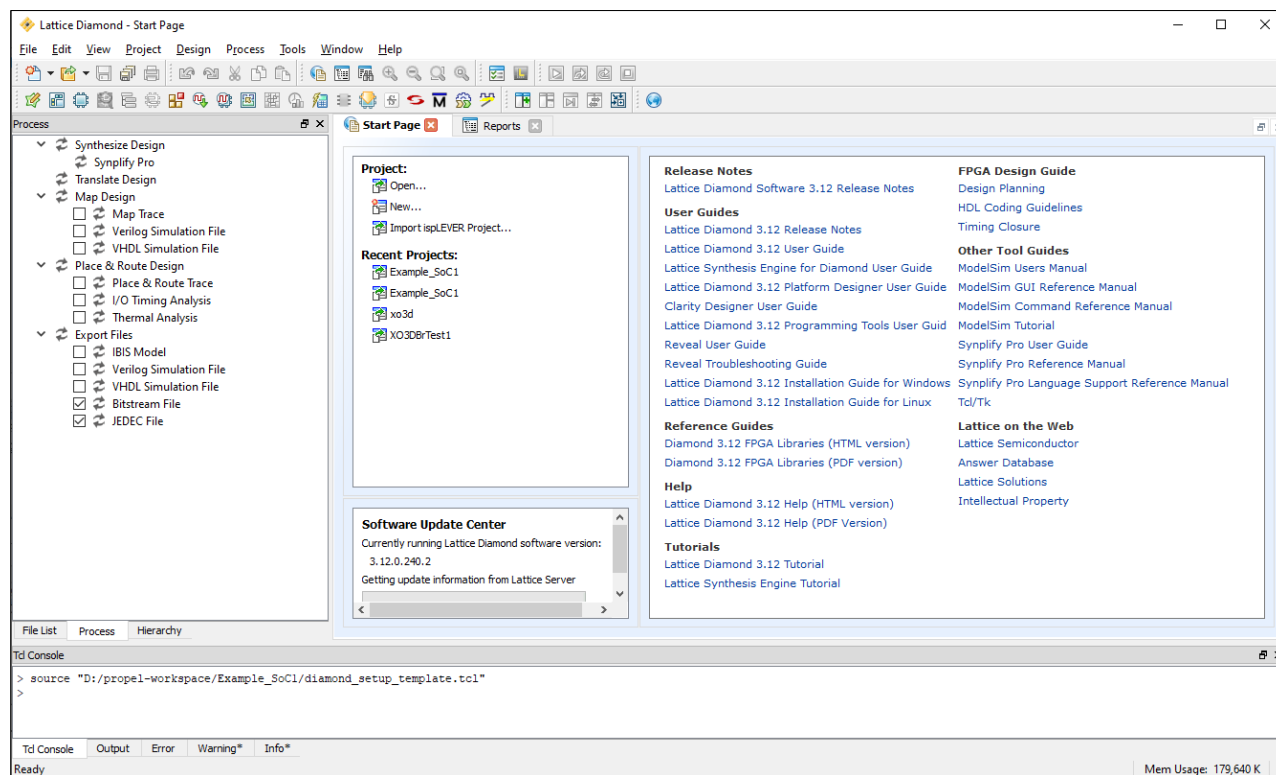
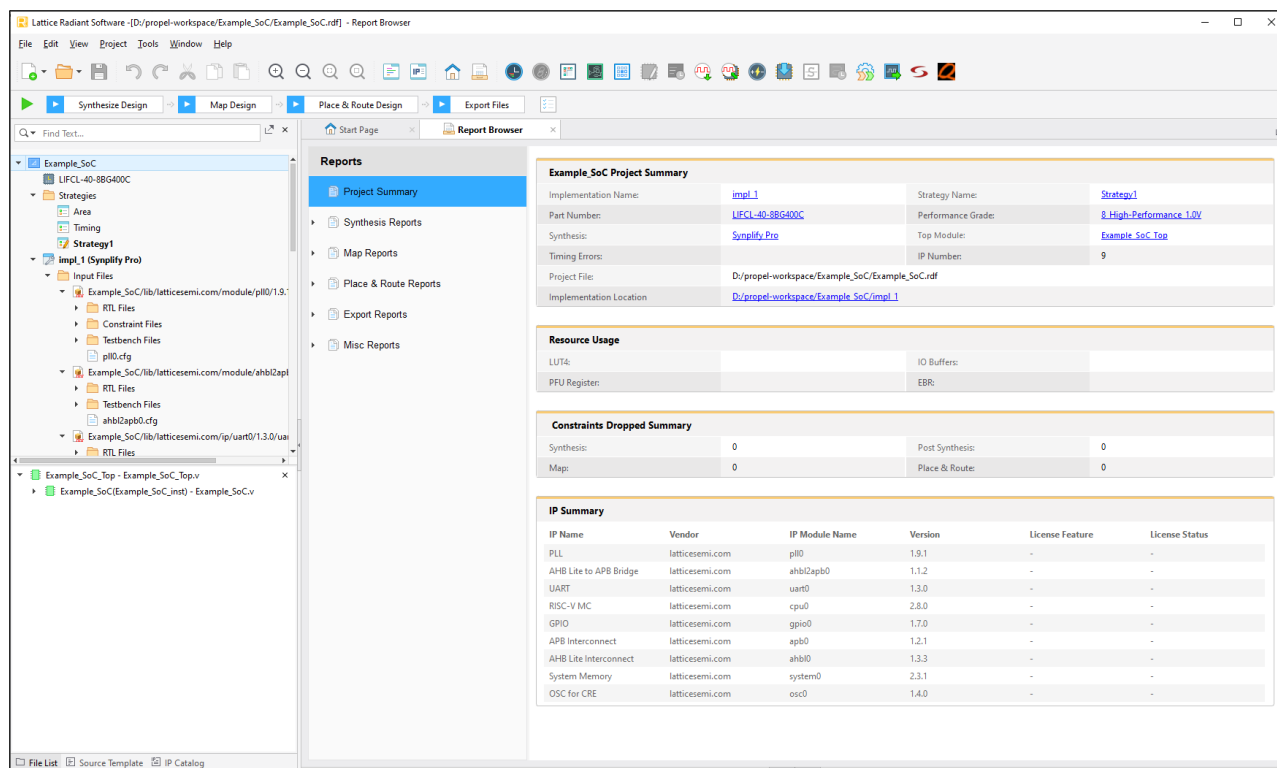

Figure 3.18. Lattice Diamond Software Project
Figure 3.19. Lattice Radiant Software Project
4. The Lattice Diamond or Radiant project for SoC is generated at background and is launched (Figure 3.18/ Figure 3.19).